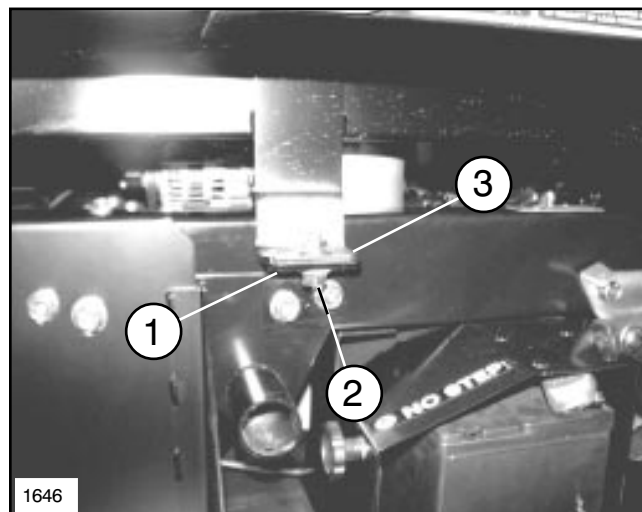

FIG. 6
5. Secure (92-2667) Attachment Mount Brackets to (99-0433) Flatbed Assembly using two 1/2"-16 x 1- 1/2" Lg. Flange Lock Hex. Hd. Cap Screws and two 1/2" Flange Lock Nuts. Make sure Attachment Mount Brackets are flush with Mounting Brackets on Flatbed Assembly. See FIG. 6. Tighten the six screws and nuts securely, at this point the Bed should be secure to the Workman[®] unit.